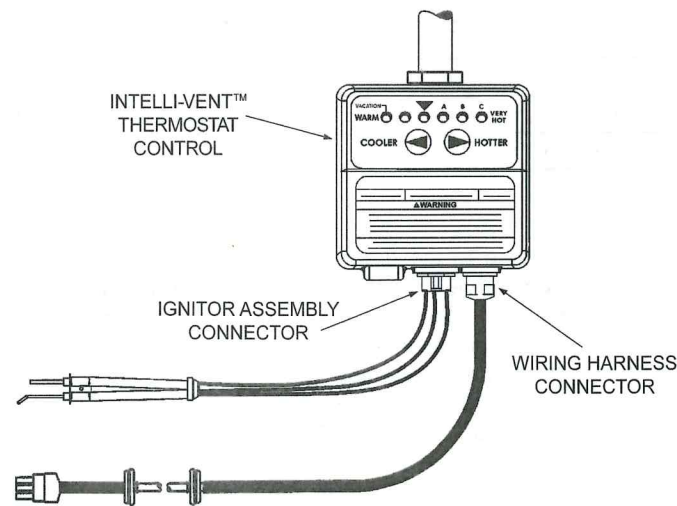

FIGURE 1.
2. Locate the wiring harness and connector that comes out of the water heater's jacket and is plugged into the Intelli-vent™ Thermostat Control, (183760 Series). Squeeze the connector and pull it straight out of the control, see Figure 1.
3. Locate the ignitor assembly and connector that comes out of the combustion chamber of the water heater and is plugged into the Intelli-vent™ Thermostat Control, (183760 Series). Squeeze the connector and pull it straight out of the control, see Figure 1.